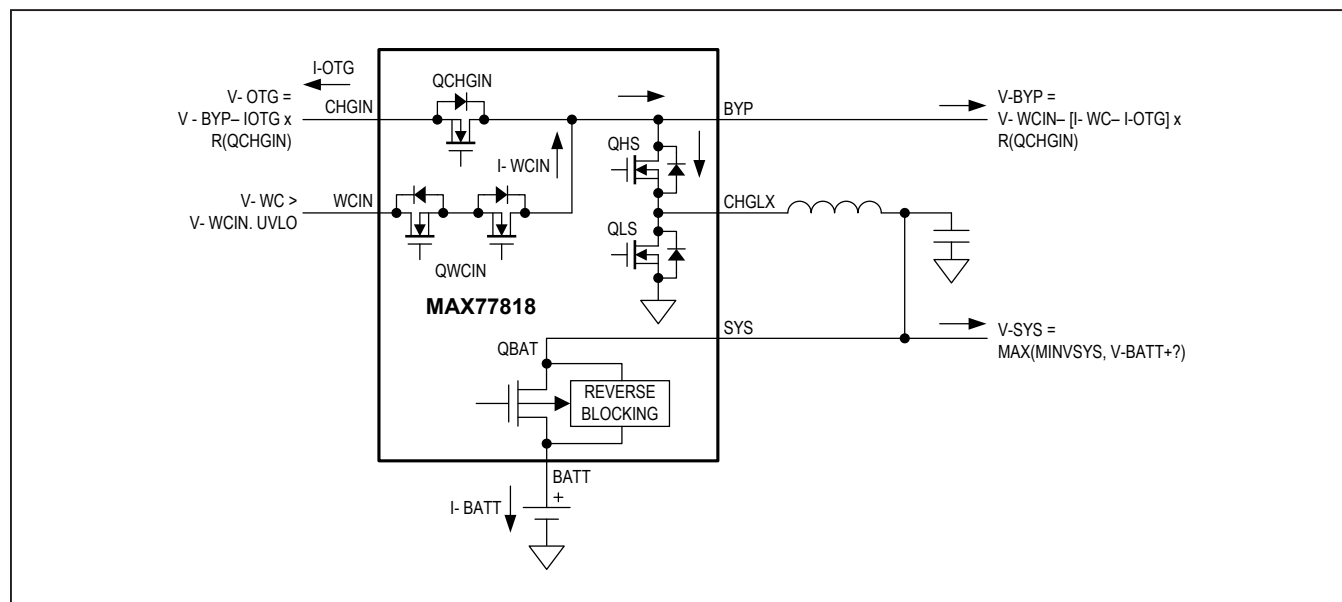

Figure 16. Charge-Buck (OTG)
**Charge Buck (OTG), MODE = 0x0F:** Wireless charger is detected within the input voltage operating range (QWCIN = on) and OTG is active (QCHGIN = on). Battery is connected in charge mode (QBAT = on), and charger is operating in buck mode powering the SYS node. See Figure 16.